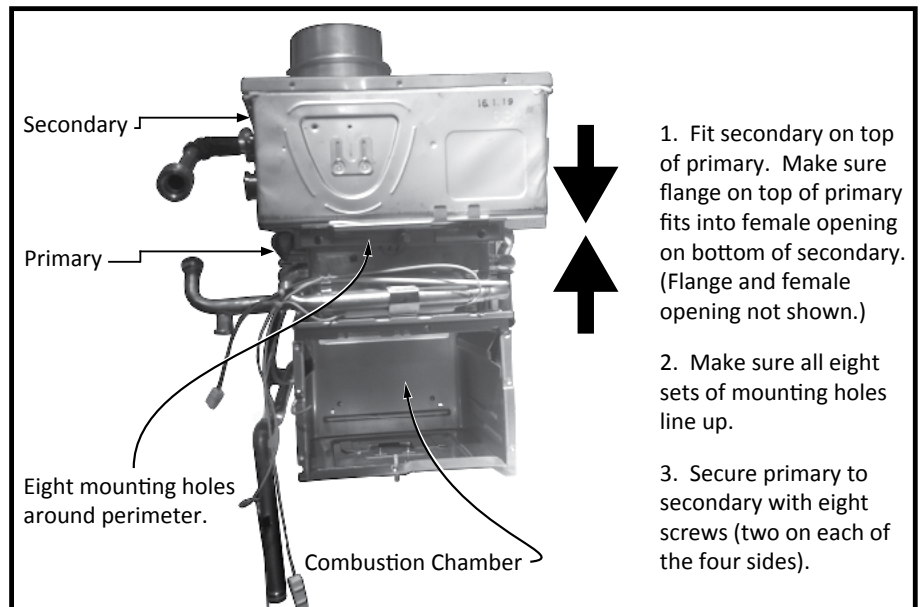

Figure 66.
- 2. Make sure that all eight mounting holes line up. See Figure 66.**
9. Slide the burner into the combustion chamber. (See Figure 66.) There are grooves on the sides of the combustion chamber; the top and bottom of the burner has flanges and spacers that will slide along the grooves.